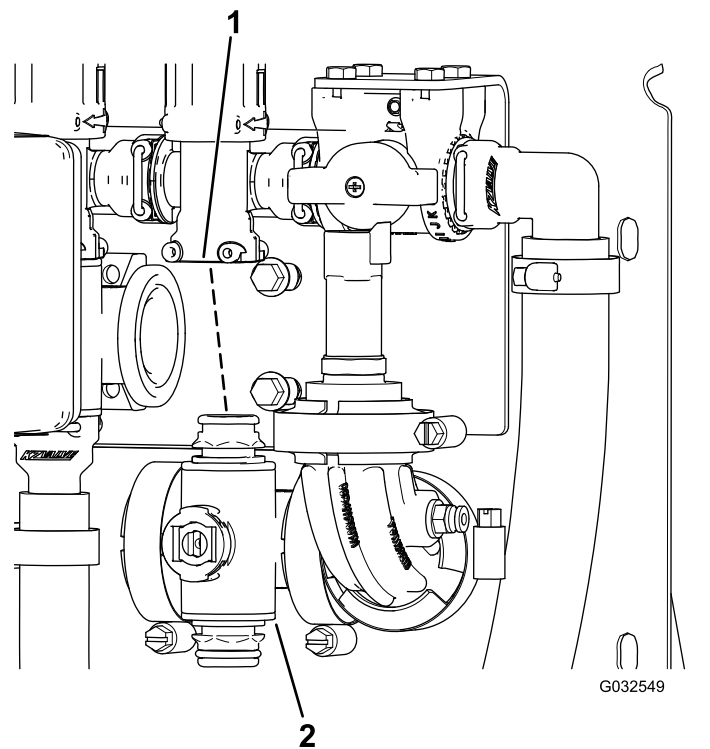

Figure 104
3. Remove the section-valve manifold from the machine (Figure 104).